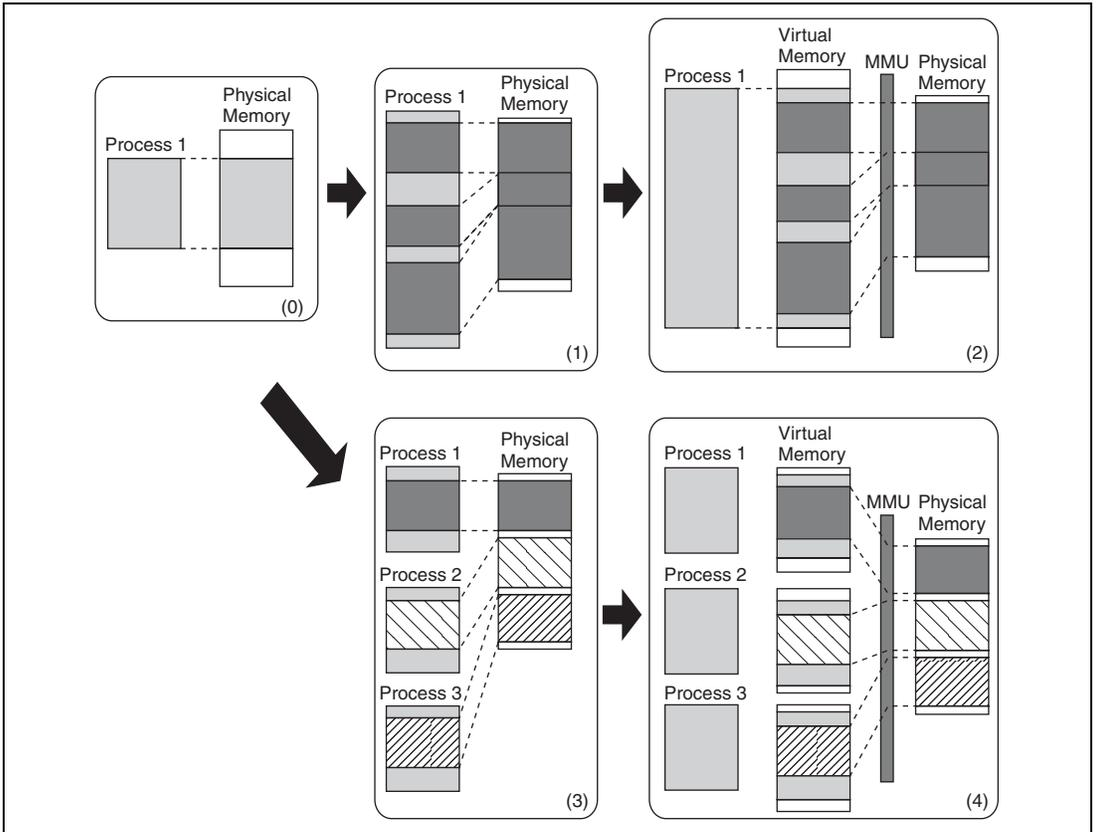

Figure 7.1 Role of MMU
The MMU was conceived as a means of making efficient use of physical memory. As shown in (0) in figure 7.1, when a process is smaller in size than the physical memory, the entire process can be mapped onto physical memory, but if the process increases in size to the point where it does not fit into physical memory, it becomes necessary to divide the process into smaller parts, and map the parts requiring execution onto physical memory as occasion arises ((1) in figure 7.1). Having this mapping onto physical memory executed consciously by the process itself imposes a heavy burden on the process. The virtual memory system was devised as a means of handling all physical memory mapping to reduce this burden ((2) in figure 7.1). With a virtual memory system, the size of the available virtual memory is much larger than the actual physical memory, and processes are mapped onto this virtual memory. Thus processes only have to consider their operation in virtual memory, and mapping from virtual memory to physical memory is handled by the MMU. The MMU is normally managed by the OS, and physical memory switching is carried out so as to enable the virtual memory required by a process to be mapped smoothly onto physical memory. Physical memory switching is performed via secondary storage, etc.
The virtual memory system that came into being in this way works to best effect in a time sharing system (TSS) that allows a number of processes to run simultaneously ((3) in figure 7.1). Running a number of processes in a TSS did not increase efficiency since each process had to take account of physical memory mapping. Efficiency is improved and the load on each process reduced by the use of a virtual memory system ((4) in figure 7.1). In this virtual memory system, virtual memory is allocated to each process. The task of the MMU is to map a number of virtual memory areas onto physical memory in an efficient manner. It is also provided with memory protection functions to prevent a process from inadvertently accessing another process's physical memory.